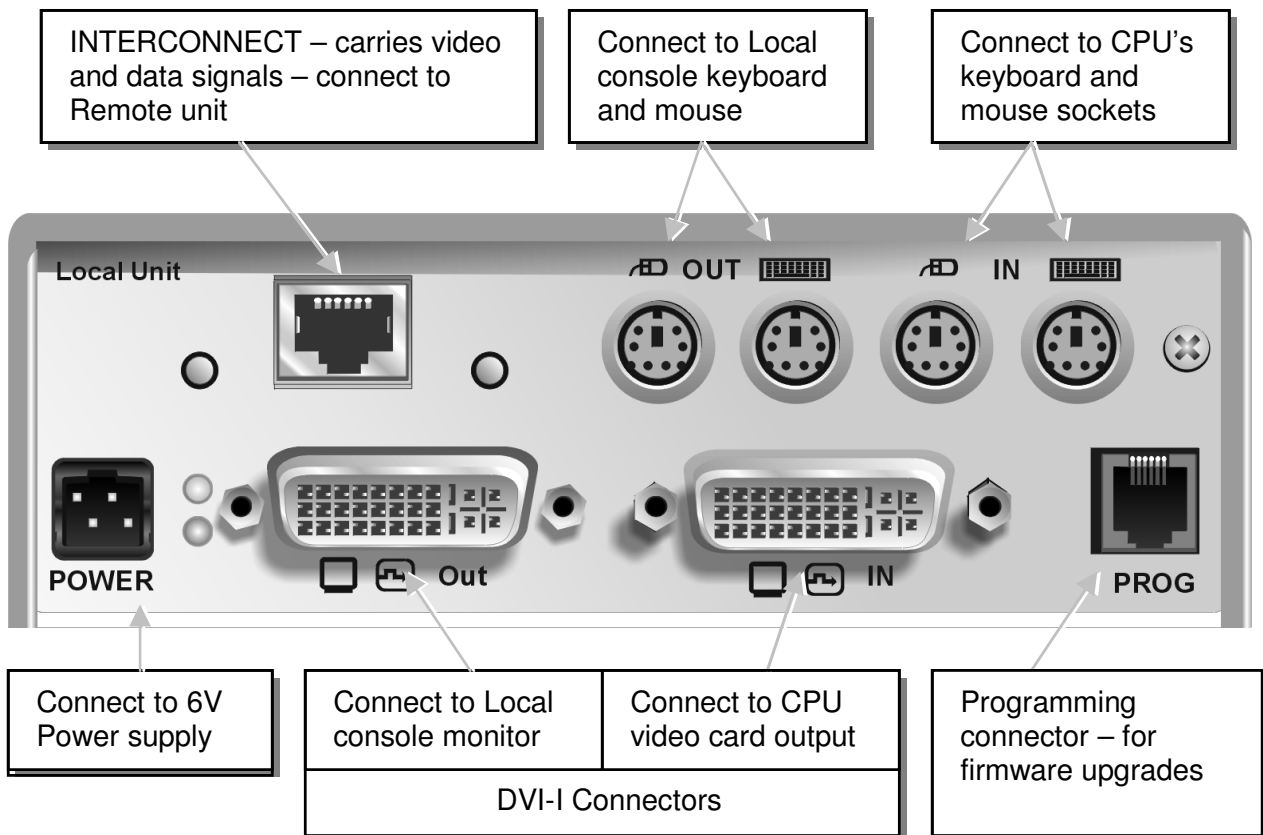
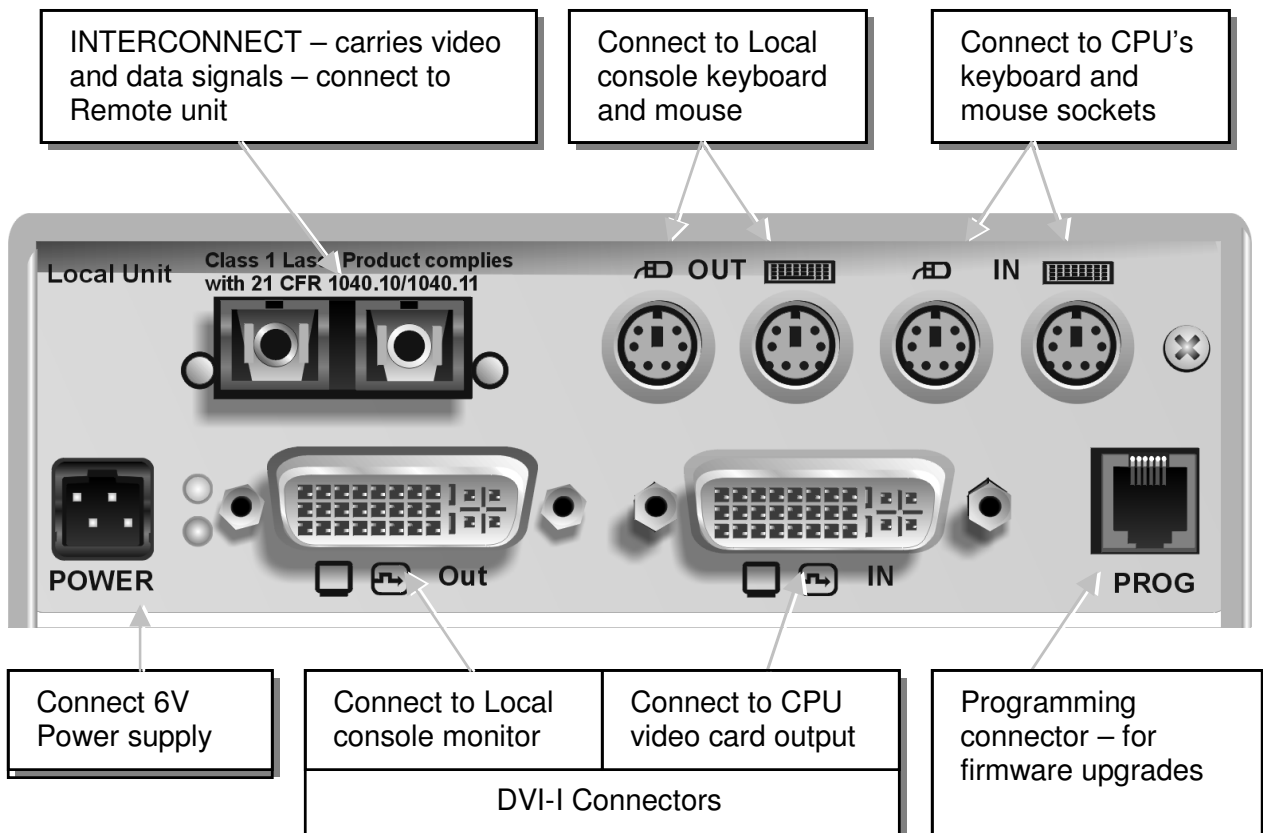
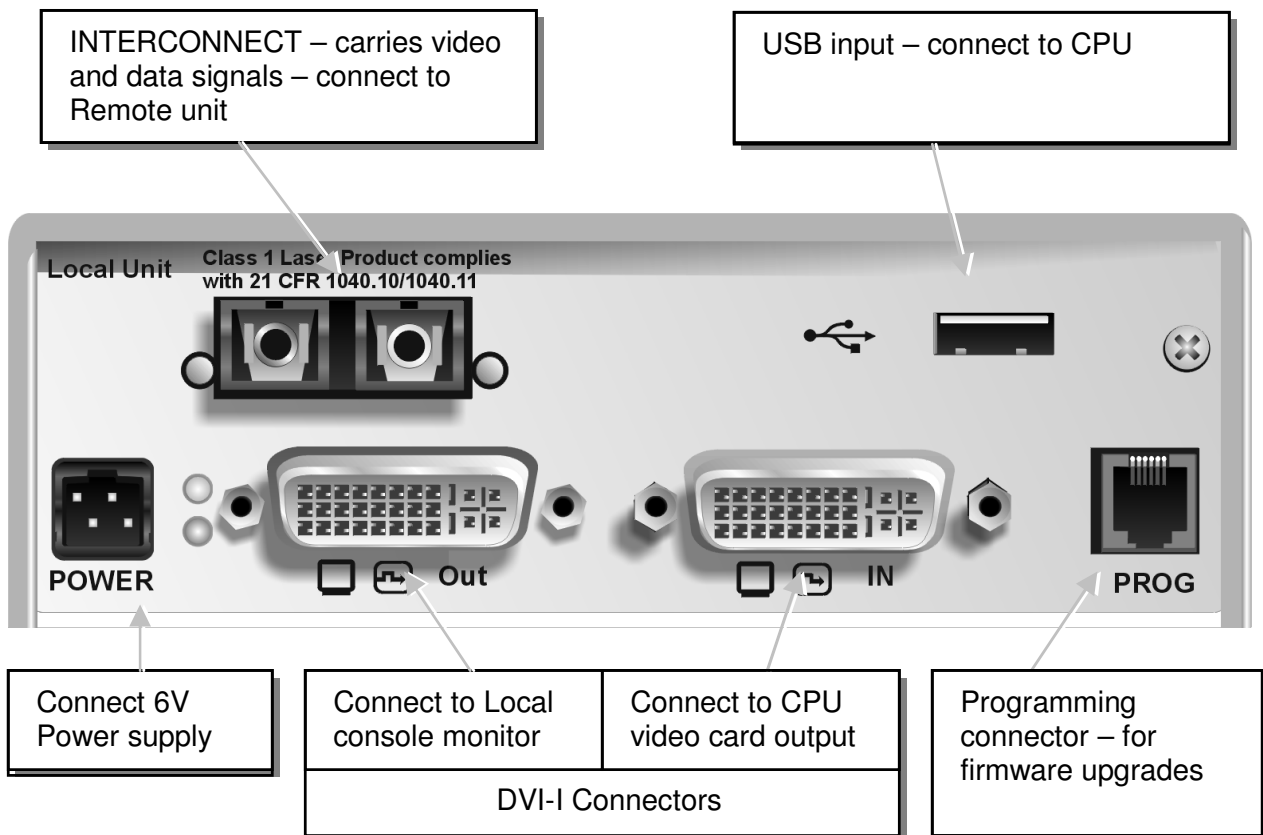

Figure 3 K439-1W Local Unit
Figure 5 K437-1W/K438-1W Local Unit
Figure 7 K442-2U/K443-2U Local Unit
5. Using the supplied CPU KVM cable(s), connect the keyboard, monitor(s) and mouse connectors on the computer (or KVM switch) to the corresponding connectors on the Local unit as shown in Figure 3 (K439-1W), Figure 5 (K437-1W/K438-1W) or Figure 7 (K442-2U/K443-2U).
7. Connect the Interconnection cable from the Remote unit to the INTERCONNECT socket on the Local unit as shown in Figure 3 (K439-1W), Figure 5 (K437-1W/K438-1W) or Figure 7 (K442-2U/K443-2U).